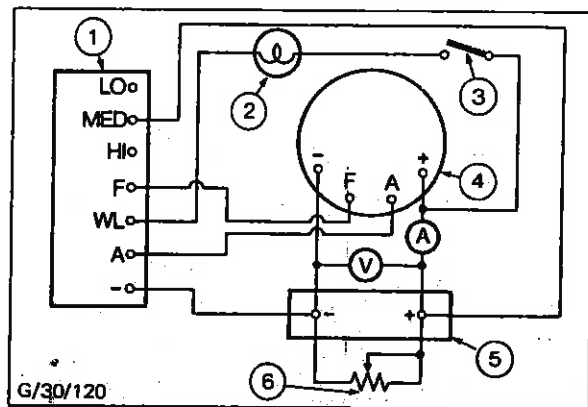

Fig. 82 - Alternator Test Circuit
4. Wire the alternator to the test circuit as shown in Fig. 82; the switch should be in the OFF position initially.